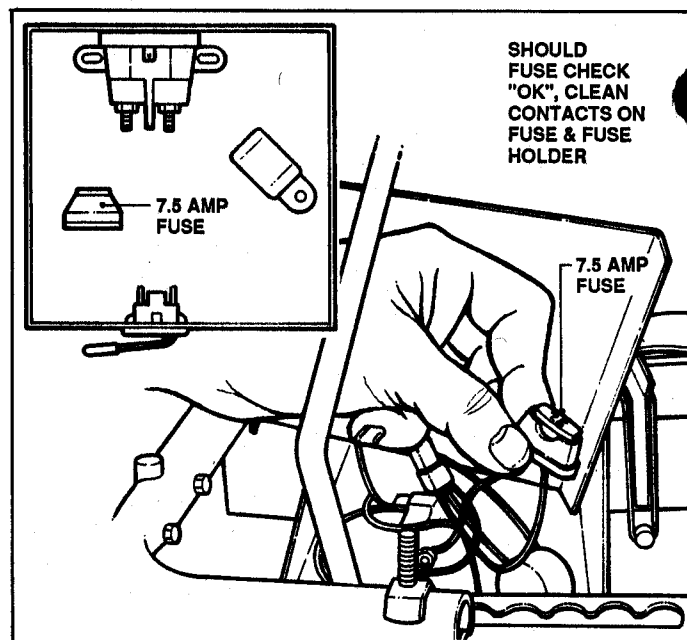

FIGURE 6.10
1. Should the Key Switch (Electric Start Models) pass all the Key Switch tests, check the in-line fuse. See Figure 6.10.